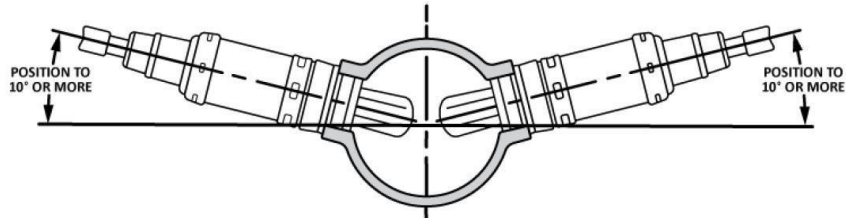

Figure 2
2. Ensure the location for the sensor is at the angle in **Figure 2**. This will help prevent condensation in the exhaust tubing from entering the sensor. The sensor can be mounted on either side of the tubing.
1. Locate a place in the exhaust to drill a 3/4" hole. Make sure to allow enough clearance for an O2 sensor and wiring harness. It is important to keep the O2 bung (**Item 2a**) at least 12 inches from open exhaust. Ensure the location for the sensor is at an angle (**Figure 2**). This will help prevent condensation in the exhaust tubing from entering the sensor. The sensor can be mounted on either side of the tubing.